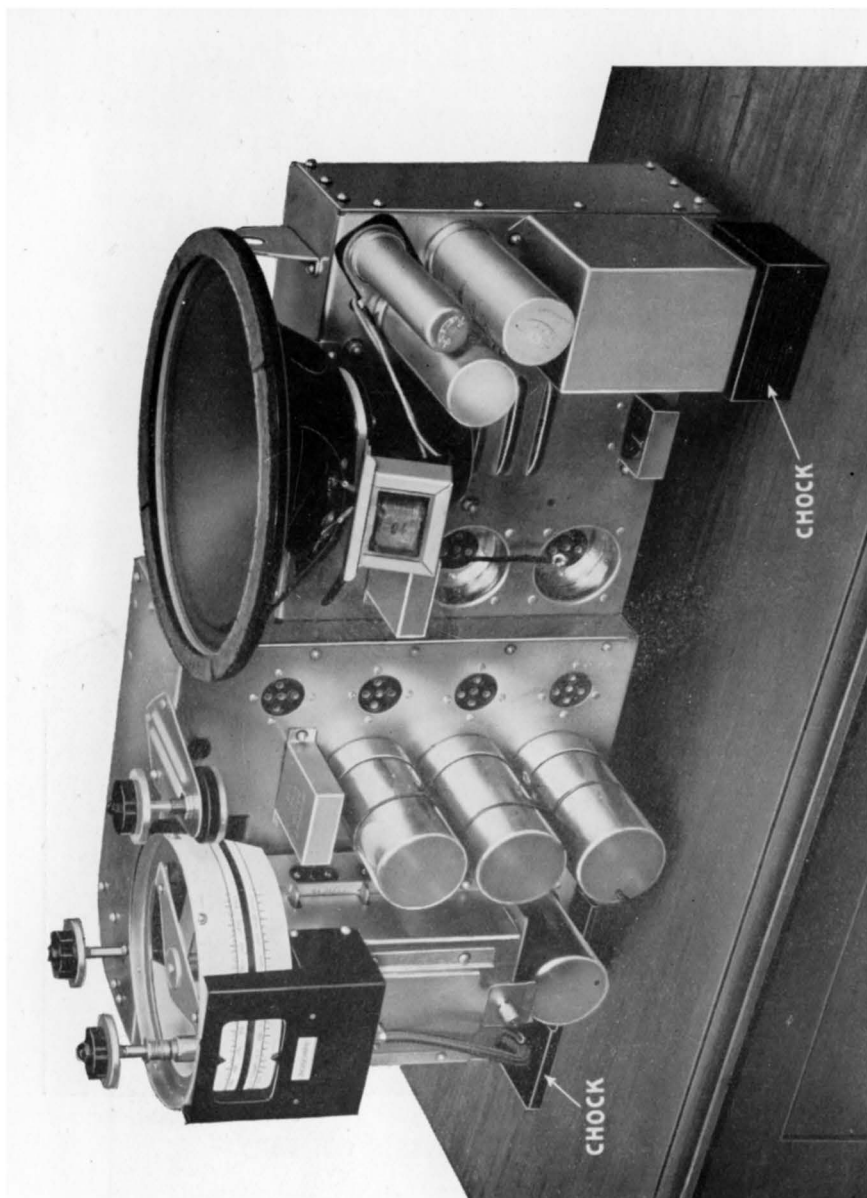

Fig. 3—VIEW OF CHASSIS ON ITS SIDE.
- (2) If more convenient, the chassis can be laid over on its hinder side, i.e., with the mains flex and terminals on the bench. It is essential to have a supporting block, about 1" thick, under the screened choke L18, and the chassis must not be laid on its side until this is in place for fear of damaging the valves. (*See Fig. 3.*)